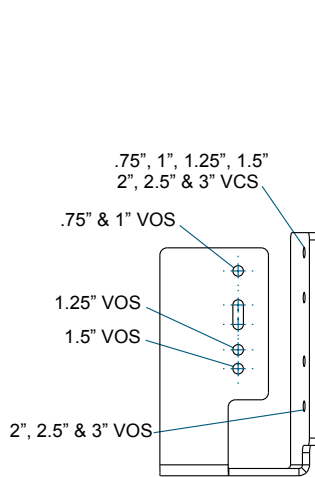

Figure 2:
- Note wand position and mounting hole location. Carefully remove the 2 screws and lift existing switch. Reference Figures 2 through 7 (page 10-30.3-38) to ensure correct switch location.
- Reference Figures 2 through 7 to ensure correct switch location. Valve size is depicted in the model number by the first 4 digits. For example, a 3" CP valve should have Model No. 300C.